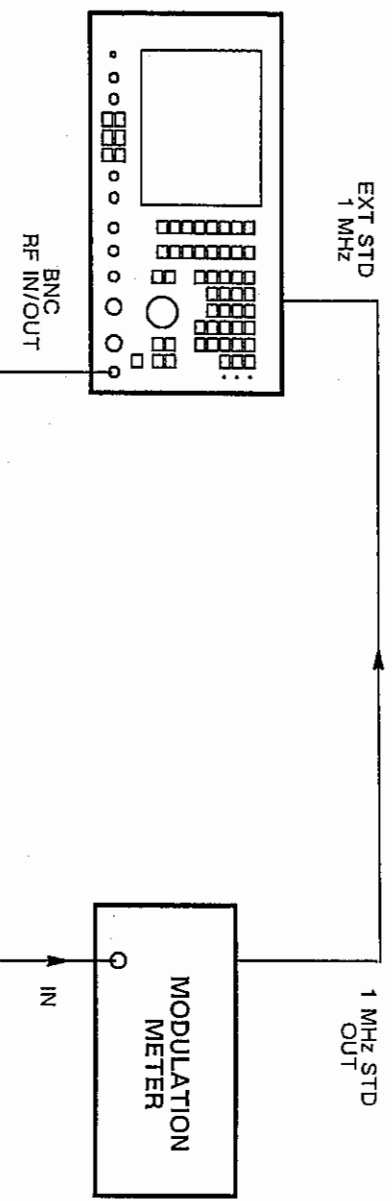

Fig. 6-22 Test equipment connections for RF generator frequency
- (1) Connect the frequency counter to the RF IN/OUT BNC socket. See Fig. 6-22.
- (2) On the 2955A, set the MODE to RECEIVER TEST, GEN FREQ to 1000 MHz, LEVEL to 0 dBm, MOD to OFF and RF IN/OUT socket to BNC.
- (3) Check that the counter reading is the same as the GEN FREQ setting  $\pm 20$  Hz.
- (4) Reset the GEN FREQ to other frequencies between 0.4 and 1000 MHz and repeat (3).